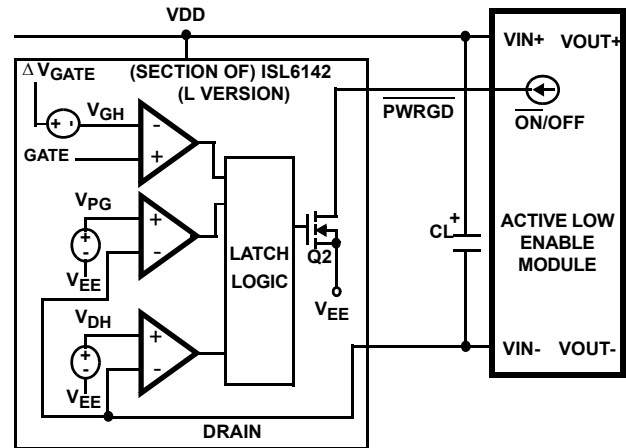

FIGURE 34. ACTIVE LOW ENABLE MODULE
**ISL6142** (L version; Figure 34): Under normal conditions (DRAIN voltage -  $V_{EE} < V_{PG}$  and  $\Delta V_{GATE} - V_{GATE} < V_{GH}$ ) the Q2 DMOS will turn on, pulling  $\overline{PWRGD}$  low, enabling the module.
The Enable input often has a pull-up resistor or current source, or equivalent built in; care must be taken in the ISL6152 (H version) output that the given current will create a high enough input voltage (remember that current through the RPG 6.2k $\Omega$  resistor generates the high voltage level; see Figure 34).